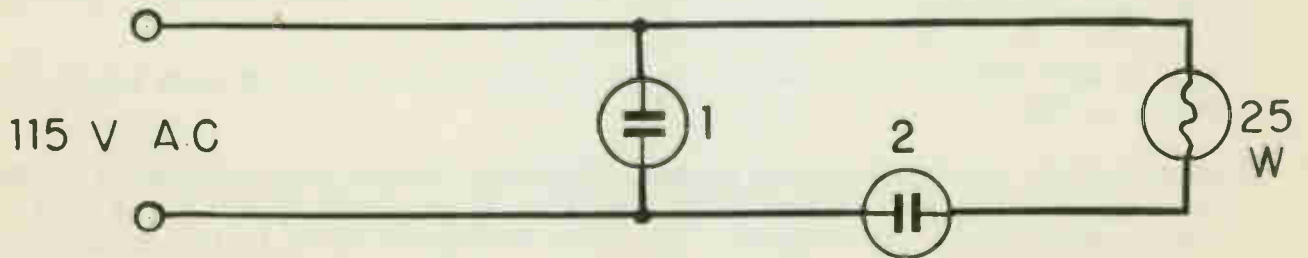

Fig. 4
3. Make a test circuit like the one shown in Fig. 4 and a set of test leads as shown in Fig. 5.